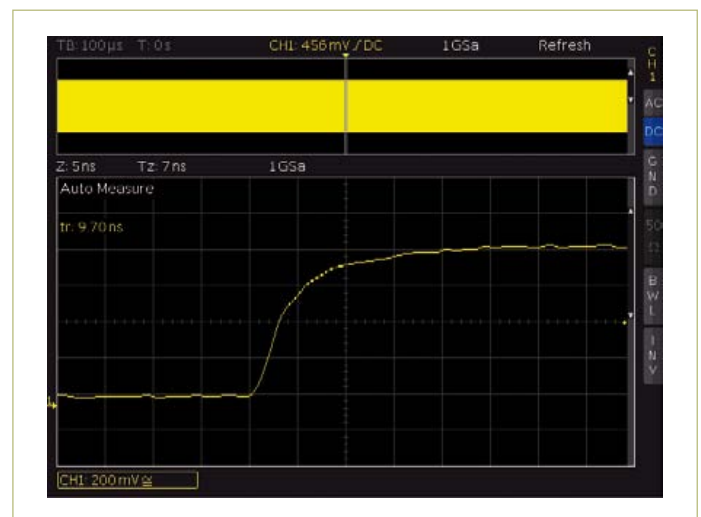

Figure 2. Fast signal changes (<10 ns) can be resolved with a one million point acquisition memory and a recording time of 1 ms.
i.e. one million memory points (see Figure 2). Conversely with a fixed recording time (1 ms) and a given memory depth using the above formula we get the resulting sample rate. This can be seen to decrease dramatically with a smaller memory depth as shown in the table.